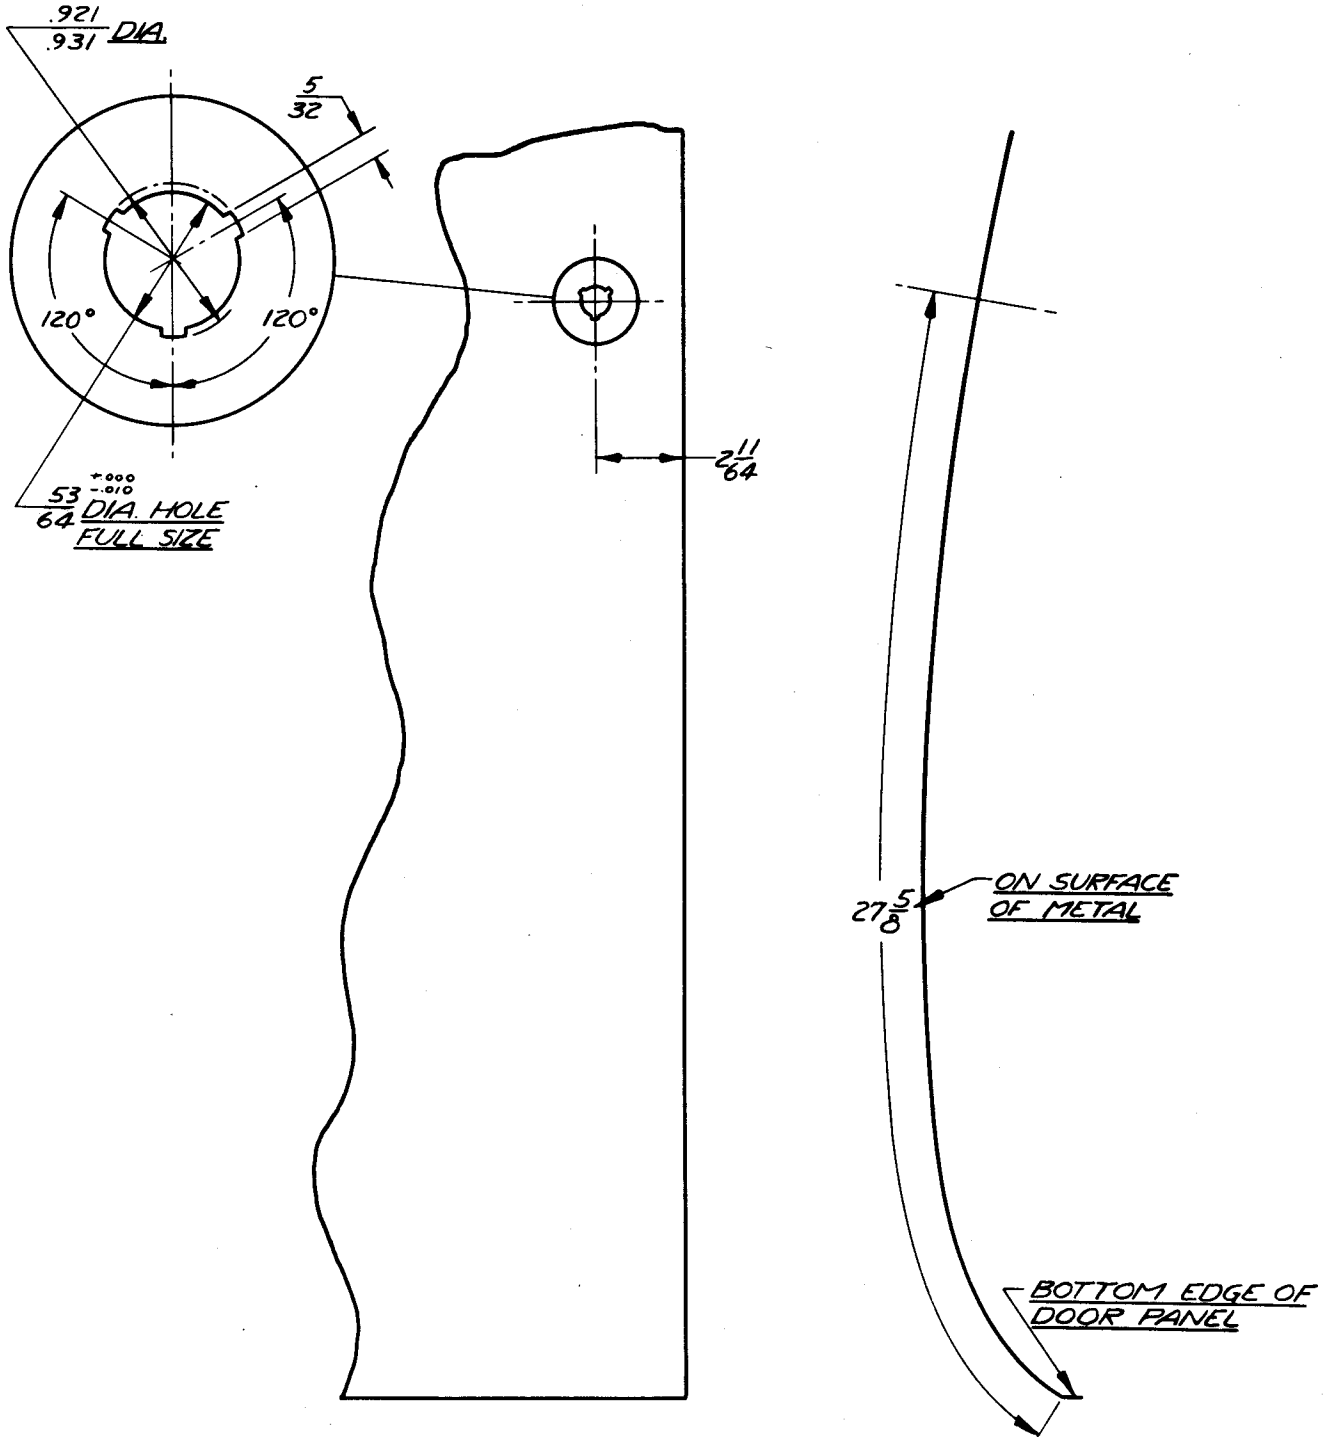

FIG. 11
1. Measure locating lines on outer door panel exactly as shown in Fig. 11.